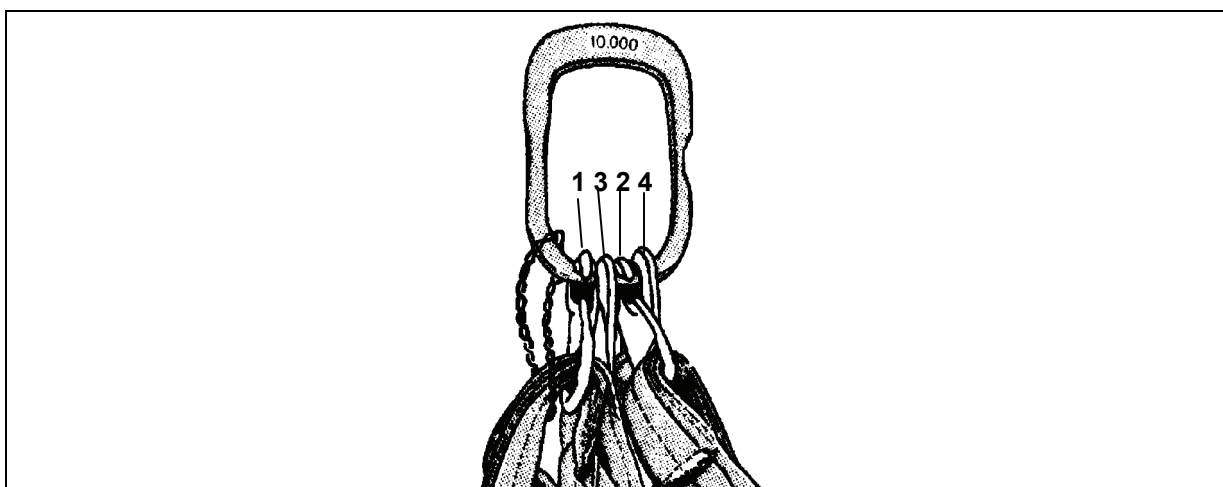

Figure 7-7. Legs Hooked in Sequence
- Position one person on top of the load. Connect the legs to the apex fitting in the following sequence: 1, 3, 2, and 4, or 1, 3, 4, and 2 to provide equal lift on all legs (Figure 7-7). Hooks should be alternated on the apex fitting.